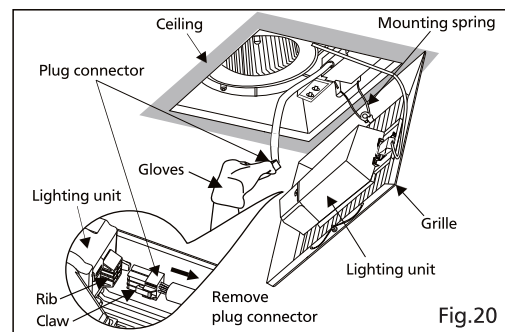

Fig.20
1. Remove grille by pulling down one mounting spring. Remove plug connector then pull down the other mounting spring. (Squeeze mounting spring and pull down carefully) (Fig. 20)